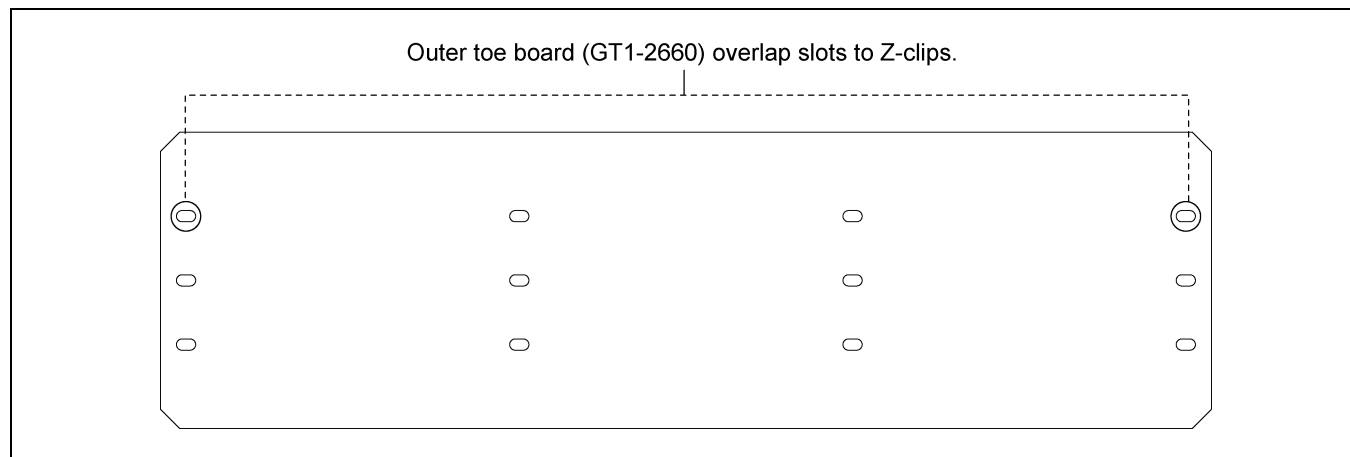

Figure 5E 23'-4" Outer Toe Board (GT1-2660)
2. Outer toe board is arranged with overlap slots on each side. Install 23'-4" outer toe boards (GT1-2660) to corresponding slots as shown in Figure 5E.